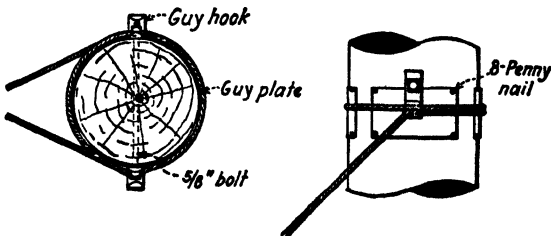

FIG. 12-30. Method of fastening guy wire to pole. Sketch shows use of guy hooks and plates.
**Fastening the Guy Wire to the Pole.** The next operation consists in fastening one end of the guy wire to the top of the pole. This consists in wrapping two turns of the wire around the pole and clamping the free end to the wire. Except where the guy wire is horizontal, two standard guy hooks (Fig. 12-30) should be placed in the side of the pole under the
Where the pull on the guy wire is so large that it is apt to crush the fibers of the wood, guy plates (Fig. 12-30) should also be installed beneath the two turns to protect the pole. The use of guy shims is now almost universal. With age, poles lose fiber strength and permit the guy wire to cut in badly unless the pole is protected with shims.